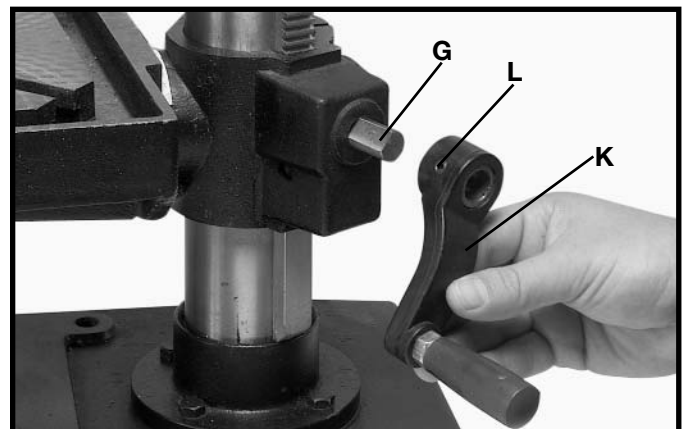

Fig. 10
6. Assemble table raising and lowering handle (K) Fig. 10, to worm gear shaft (G) and tighten screw (L) against flat on shaft.